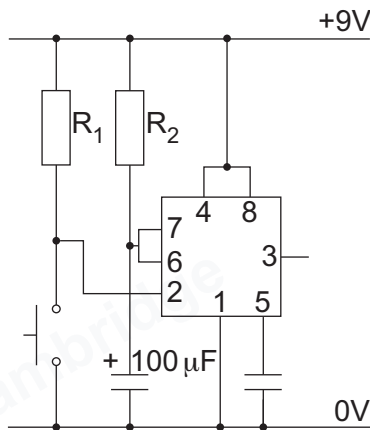

Figure 12.2
- (i) Figure 12.2 shows the circuit diagram for the 555 timer monostable circuit.